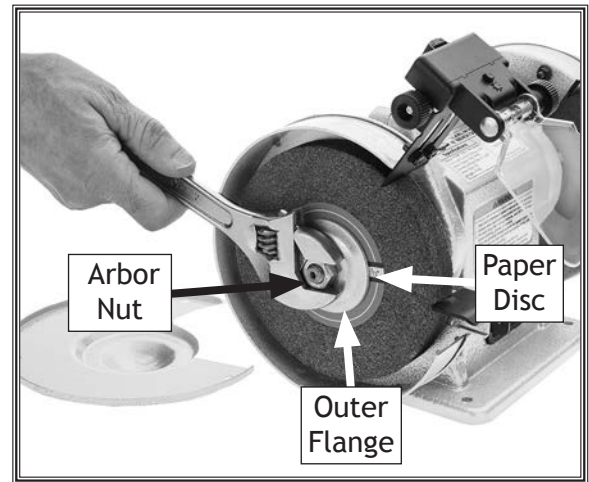

Figure 18. Removing grinding wheel.
3. Remove arbor nut (see Figure 18).